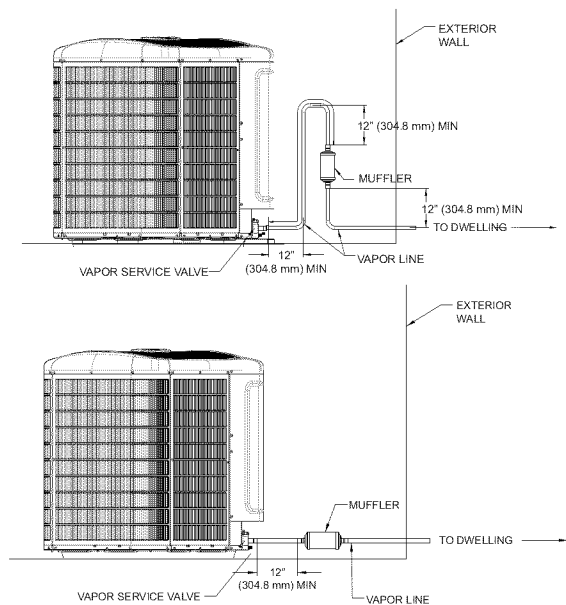

Fig. 5 - Muffler Installation
- Muffler may be installed in the vertical or the horizontal direction, maintaining at least 12 in. (304.8 mm) straight pipe length from the OD unit (See Fig. 5).